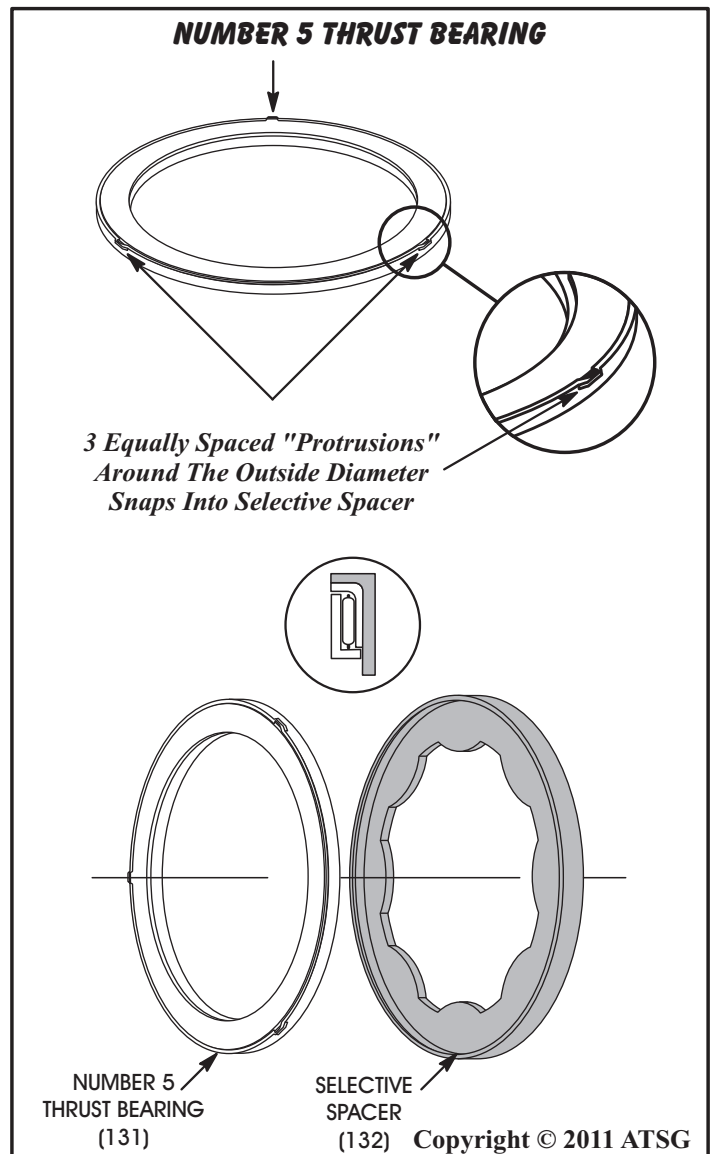

Figure 47
*Note: Number 5 thrust bearing has 3 equally spaced "protrusions" around the outside diameter that snaps into the selective spacer, as shown in Figure 47. This selective spacer is used to set front transmission end-play.*